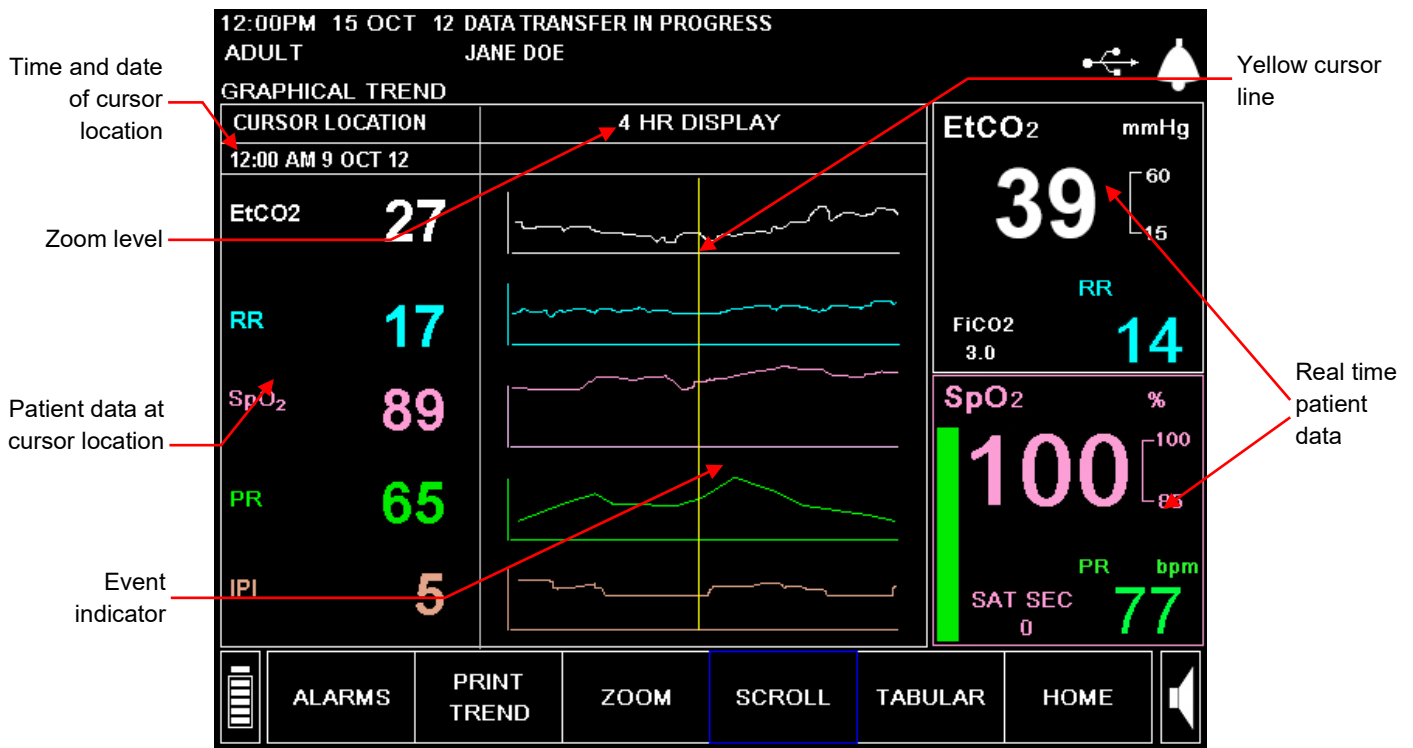

Figure 31 - Graphical Trend Display
1. From the Home screen, use the control knob to select *TREND* from the soft buttons in the menu bar at the bottom of the screen. The Graphical Trend screen, seen in Figure 31 - Graphical Trend Display, below, is shown.
- **Yellow cursor line:** The vertical yellow line extends through all four graphs and is movable with the control knob when the **SCROLL** option is selected. The cursor line shows the current location in the trend data, with the exact date and time listed under the **CURSOR LOCATION** heading near the top left of the screen as shown in Figure 31 - Graphical Trend Display on page 84.
To find an event or alarm occurrence, scroll the graphic display to look for event and alarm markers as shown above in Figure 31 - Graphical Trend Display on page 84. Place the yellow cursor line on the red alarm marker, then exit the scroll mode by clicking the control knob. When you zoom to a different time display, the cursor will appear in the middle of the graphical screen at the appropriate time that it marked on the previous screen.